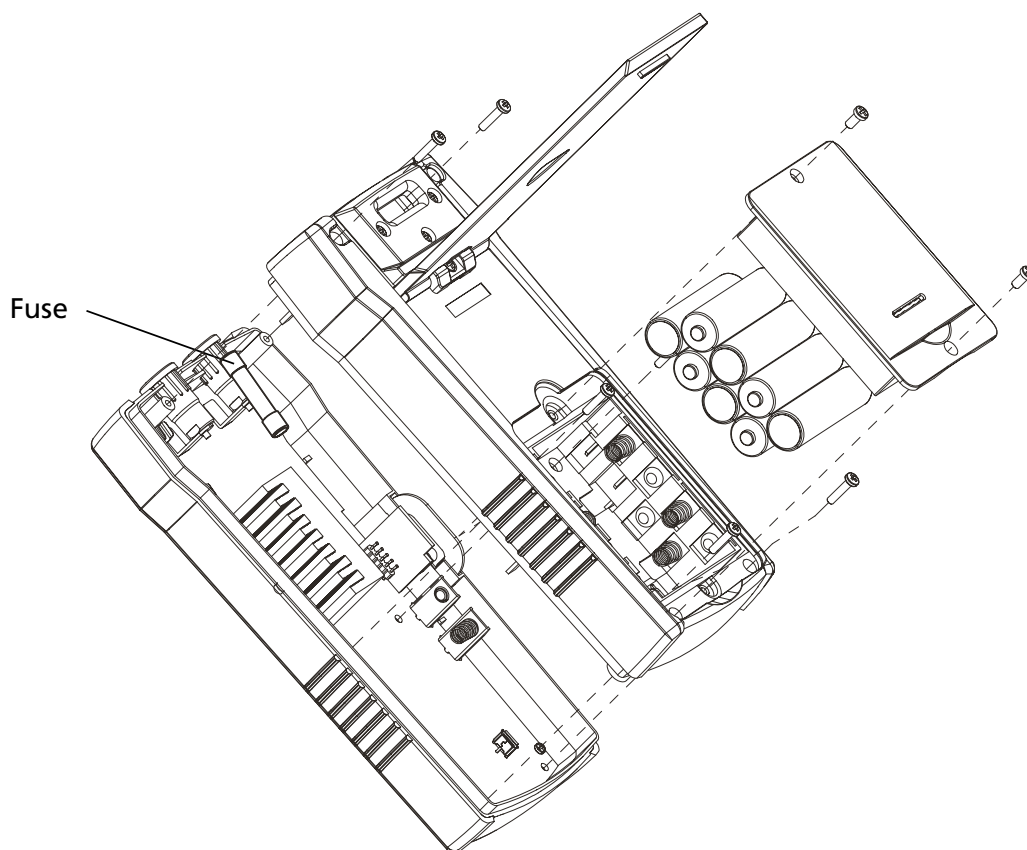

Figure 5.3: Transmitter fuse replacement
6. Remove the back cover by pulling it upwards as shown in figure 5.3.